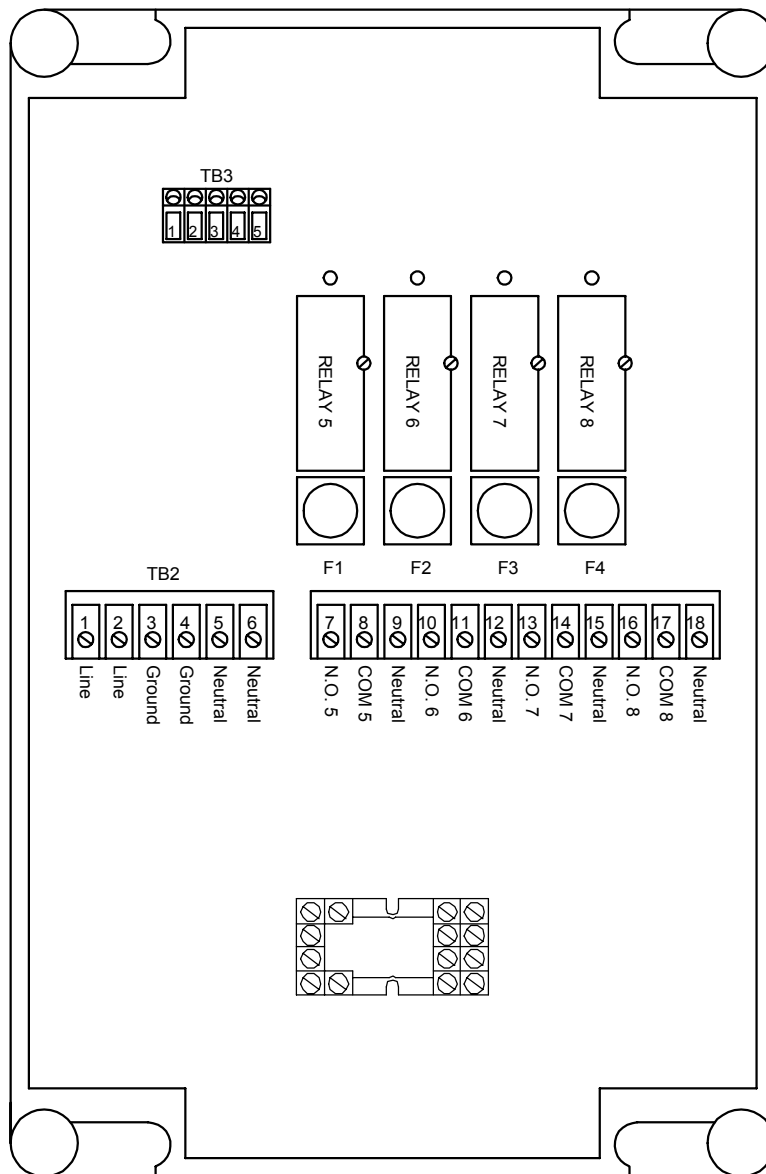

Fig 3.7
- Locate Terminal labeled “TB2” (Fig 3.7, Page 3-8).
Terminal (TB2) Figure 3.7	Description